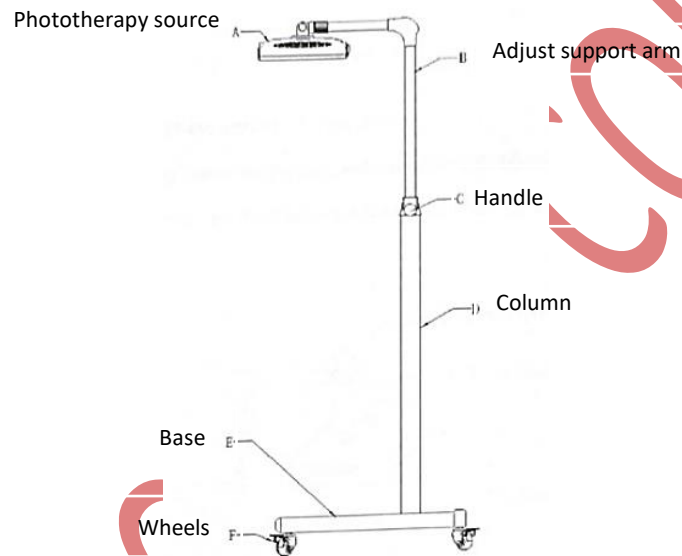

Figure 1
- a. Whole unit assembly. (Figure 1)